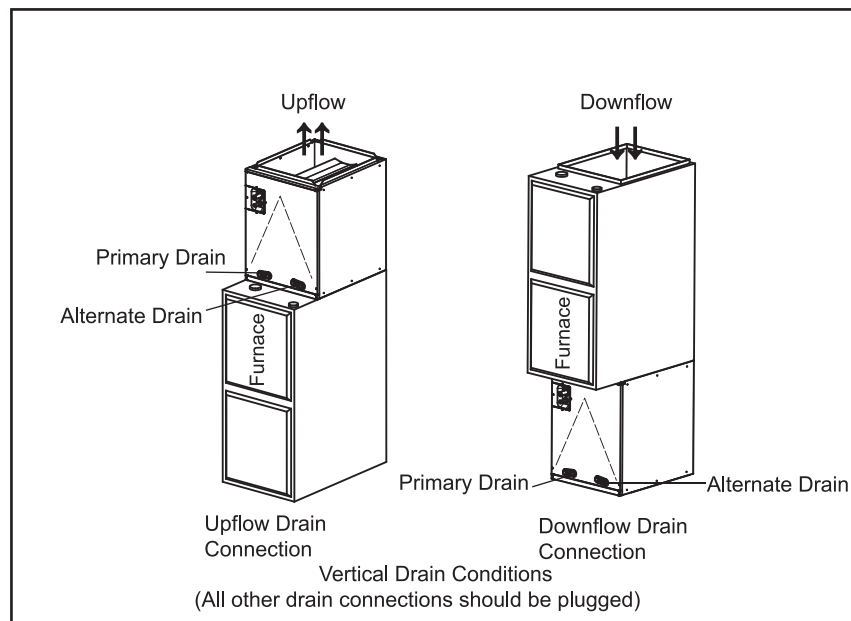

Fig.4 INSTALLATION OF CASED COIL
1. See Fig.4 for coil installation and drain connection for vertical applications.
- C. Ensure that the coil is leveled well and seal the gap between coil and furnace. See Figure 4. In case that coil and furnace sizes are not matched, use proper size of sheet metal or other material to fill the gap and seal the gap to prevent air leak ;